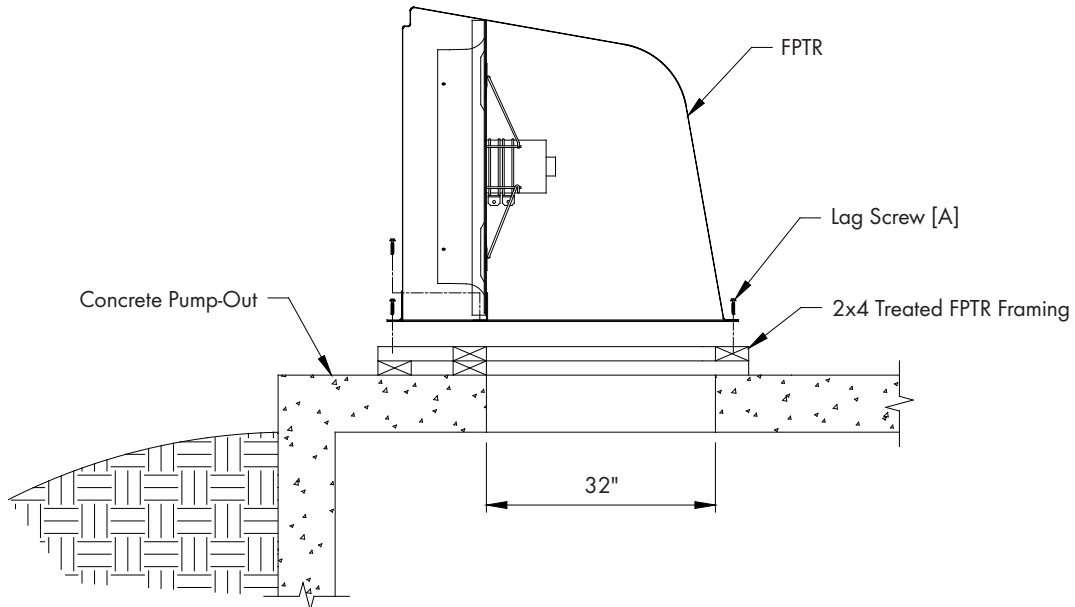

Figure 14
Apply caulk around FPTR flange and on Bottom Angle Piece and secure to framing using (8) Lag Screws [A] in FPTR and (3) TEK Screws [B] in Bottom Angle. *See Figure 14.*